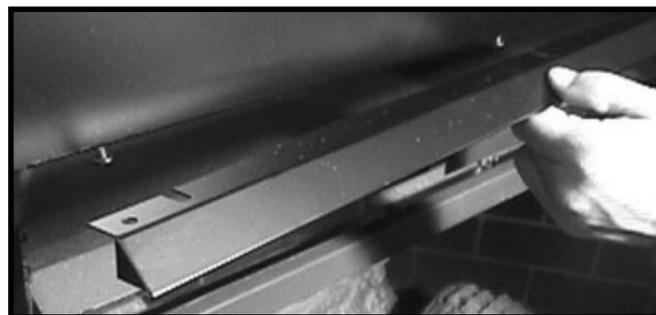

Figure 14 - Attaching the Hood
- Position the hood and slide it into position. See Figure 14.